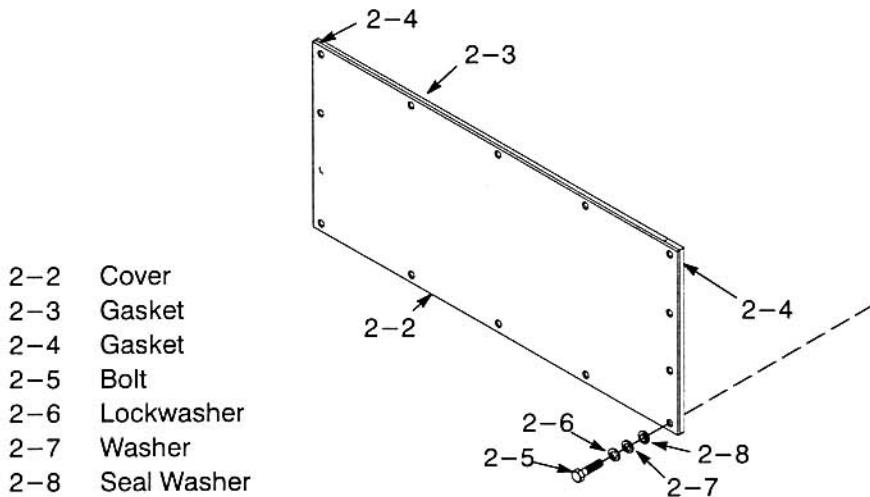

Figure 7-175 Inspect Cover
- f. Inspect cover (2-2, Figure 7-175) and cover hardware. Replace cover and cover hardware (2-5, 2-6, 2-7, 2-8) if damaged or missing.